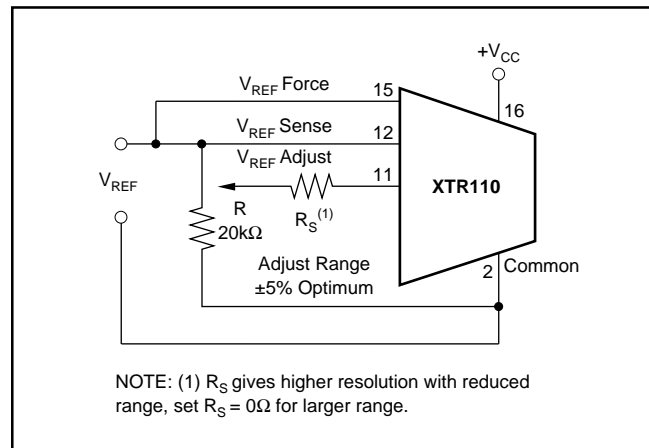
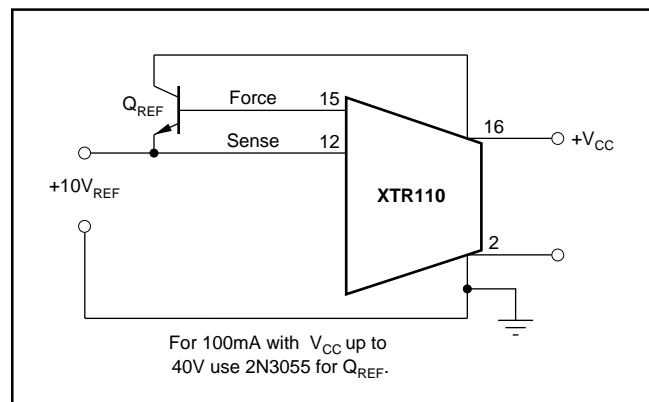

FIGURE 3. Optional Adjustment of Reference Voltage.
FIGURE 4. Increasing Reference Current Drive.
NOTES: (1) Including internal reference. (2) Span is the change in output current resulting from a full-scale change in input voltage. (3) Within compliance range limited by (+V_{CC} - 2V) +V_{DS} required for linear operation of the FET. (4) For V_{REF} adjustment circuit see Figure 3. (5) For extended I_{REF} drive circuit see Figure 4. (5) Unit may be damaged. See section, "Input Voltage Range".
3 should be connected to this point. The circuit in Figure 3 shows adjustment of the voltage reference.
The current drive capability of the XTR110's internal reference is 10mA. This can be extended if desired by adding an external NPN transistor shown in Figure 4.